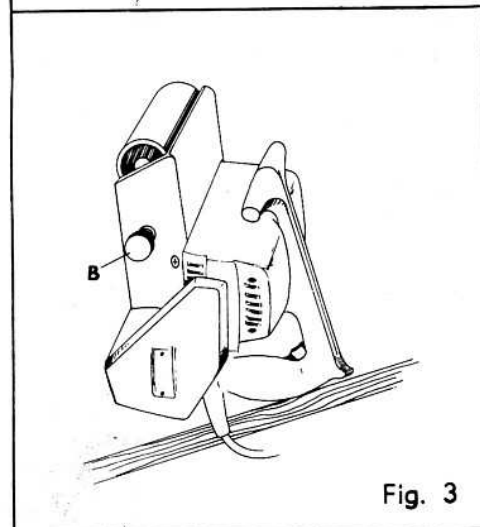

Fig. 3
To adjust sanding belt, connect sander to power supply. Stand sander on end as illustrated (See Fig. 3), pull switch trigger and release immediately while observing tracking of sanding belt. If sanding belt runs outward turn tracking screw (B) clockwise and counterclockwise if belt runs inward. This should be done until you are sure belt will not come in contact with rub strip. When you are sure belt will not rub against rub strip start sander and fine adjust the tracking screw until belt stabilizes. When correctly adjusted, the outer edge of the belt will be even with the outer edge of sole plate.